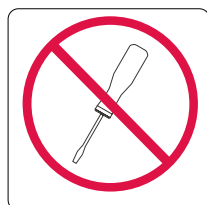

Figure 4. No user access label for SAN Volume Controller
2. No user access label. See Figure 4.